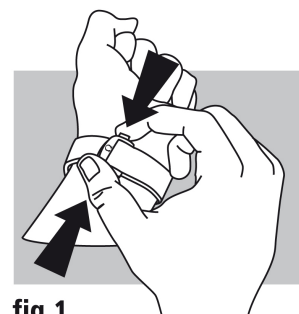

fig. 1
**Opening (fig. 1):** to open the clasp, press the two pushers on either side of the OMEGA buckle and pull upwards.